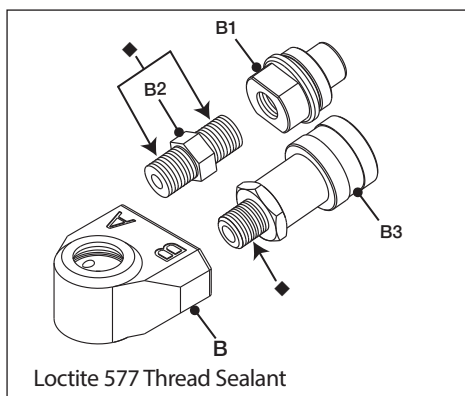

Fig. 25
Refer to Fig. 21 and Fig. 25 for swivel components.
- Apply Loctite 577 sealant to threads on female coupling (B3) and adapter (B2). See () in Figure 25 for locations.